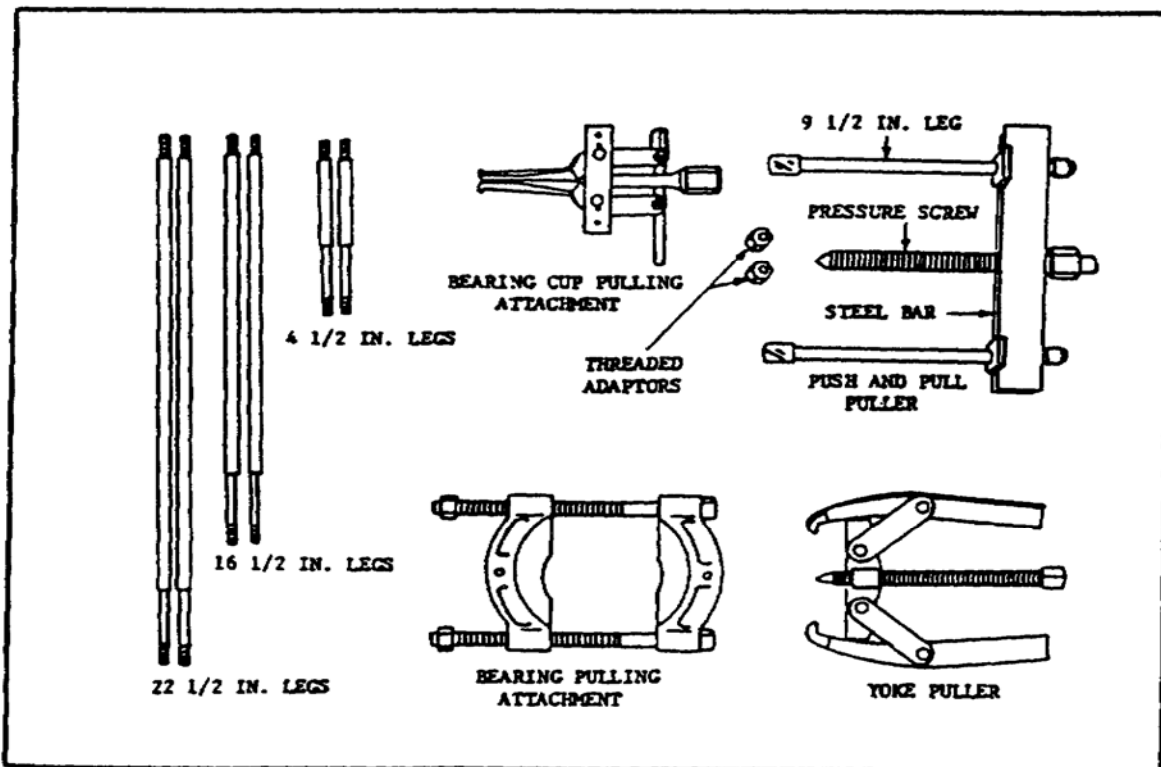

FIGURE 67. PUSH AND PULL PULLER SET.
(f) *Push and Pull Puller Set*. The push and pull puller set (figure 67) is used in conjunction with a variety of attachments and adapters. The push and pull type puller consists of a 13 1/2 inch steel bar slotted to receive two 9 1/2 inch legs. A pressure screw in the center of the bar is 13 inches long, has a diameter of 1 inch, and is threaded. This puller is a universal and versatile bearing and is designed for use with a pulling attachment, a bearing cup pulling attachment, a sheave puller attachment, threaded adapters, step plate adapters, additional legs, and many other special adapters. The set is capable of removing or replacing bearings, gears, pinions, pulleys, wheels, bushings, and has many other uses. A puller set consisting of a yoke-type puller and push and pull puller, 8 adapters, and 2 attachments carried in a metal case is issued by the Army Ordnance Supply System.
(3) *Push and Pull Puller Set.* The universal push and pull puller set (figure 67) is probably the best all around puller combination available. Several combinations of its component parts are discussed and illustrated, in (a) through (d) below.